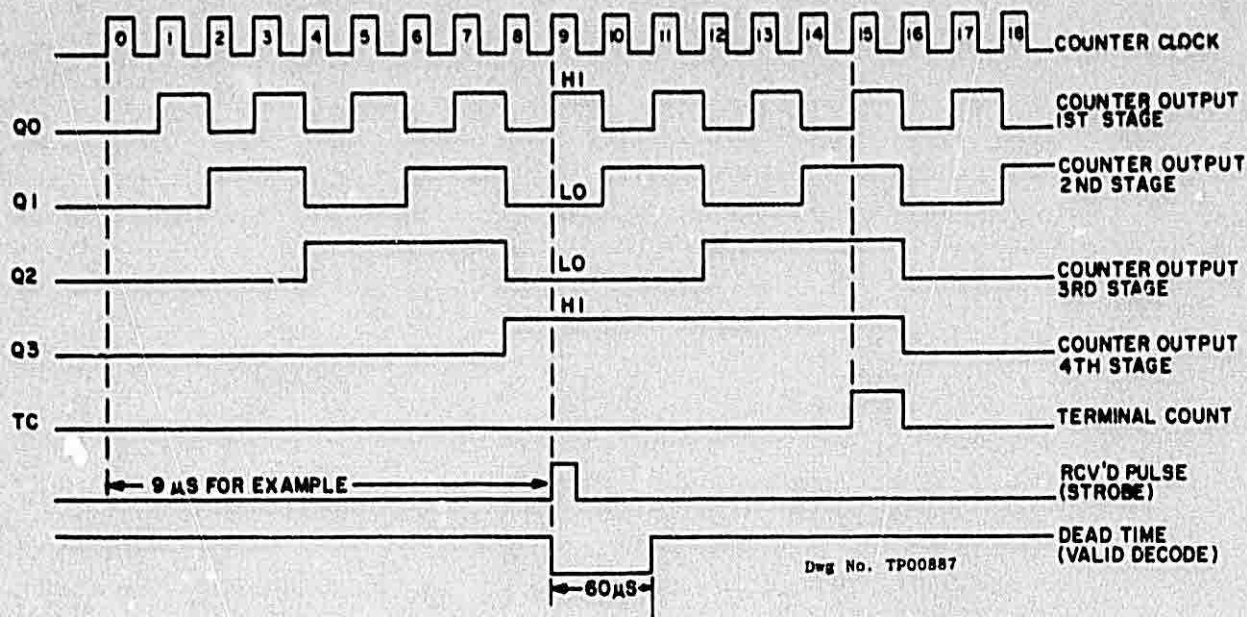

FIGURE 4-5. SEARCH TRACK TIMING DIAGRAM
During actual operation, the display is in increments of 0.1 nautical mile. The Search Track Counters count increments of 1.0 microseconds obtained from the divided down ($\div 4$) crystal controlled 4 MHz clock. The counters are started by the "Search Enable" port from the microprocessor 53 us after the "encode" port has turned on the transmitter. The 1 MHz clock pulses are fed into the counters without interruption. A single Search Track counter consists of four edge triggered "D" flip-flops (F-F) in series, capable of 16 counts. The counters output is in a binary format. Each of the four output lines is capable of indicating the logic state of its associated F-F, a "1" (high) or "0" (low). Also there is a Terminal Count (TC) output line which is fully decoded and is high only on the 15th count and returns to logic low on the 16th count. The TC output from the first counter is connected to the "Count Enable Trickle" (CET) input of the second counter, and the TC output of the second counter is connected to the CET input of the third counter. The Count Enable Trickle input must be logic high to enable the counter. A logic low at the CET input inhibits the count sequence and freezes the output lines in their existing states at the time the CET input goes logic low. The condition of each output line is shown in Figure 4-5.
To satisfy these operating conditions, apply the control signals to the Search Track Counters. The "data clear" line from the microprocessor has set all the counters and latches to their zero state (all four output lines are logic low). The uninterrupted 1 MHz clock is present at the clock input of the counters. The "search enable" line from the microprocessor goes to logic high, enabling the counters. As the clock pulses are loaded into the counter, the count progresses in a binary sequence as shown in Figure 4-5 and Table 4.3.
If, at the count of 9, a reply strobe pulse is fed into the 6 bit latches, as shown in Figure 4-5, the data at the latch inputs (Q0/Q3 are high, Q1/Q2 are low) will be transferred to the latch outputs for the microprocessor to read. At the same time the latches are being strobed, the "Dead Time" multivibrator is triggered (60 us), and its output is the "Valid Decode" input to the microprocessor. Upon receipt of the Valid Decode, the microprocessor accepts the data from the latches and during the 60 microsecond duration of the multivibrator it will not accept any new data. This 60 us Dead Time is to suppress echoes (signal multipath).